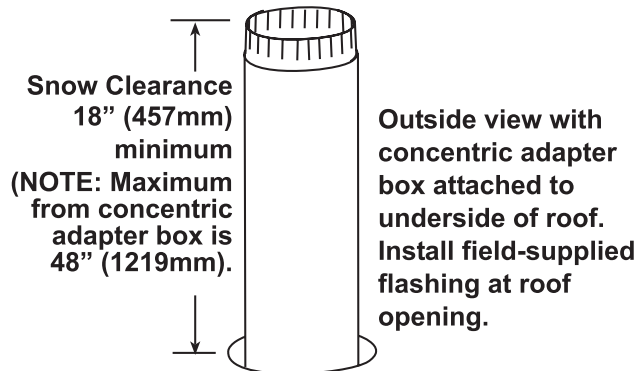

Figure 29. Combustion Air Pipe Through Roof
- a. Insert combustion air pipe through roof as shown in Figure 29.